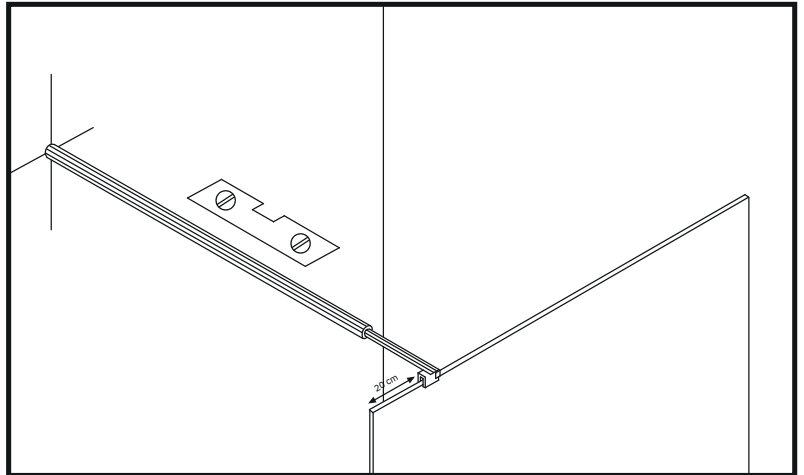

Figure 8
18. Install the telescopic tube at a 90-degree angle to the wall. The glass clamp must be positioned no more than 20 cm from the corner of the glass. (Figure 8)
20. Carefully place the telescopic tube on the glass, in the previously measured and planned location. Make sure that the telescopic tube is vertically level. (Figure 8)